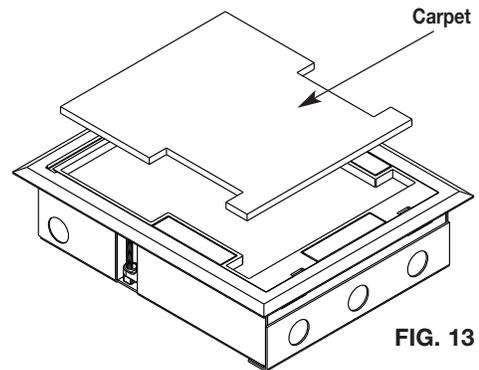

FIG. 13
Step 11 For carpet installations use the 8 1/16" x 10 1/8" [205mm x 257mm] carpet blank remaining from the opening and cut a piece to match the recess in the cover. Glue the piece of carpet onto the floor box cover. (See Fig. 13.)